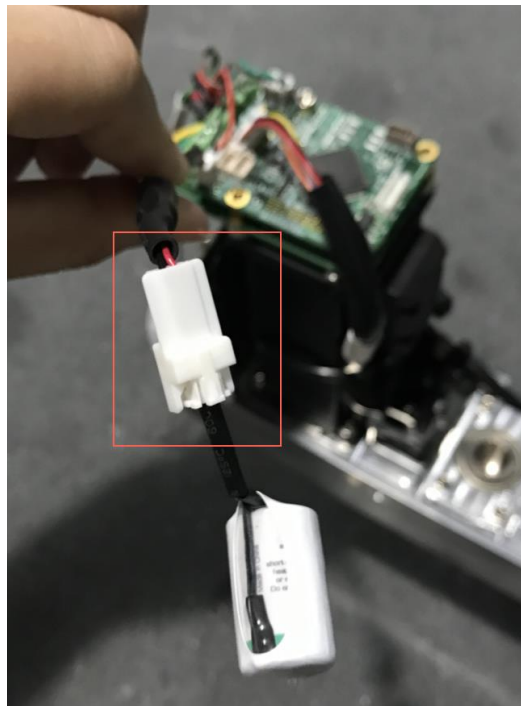

Figure 7.15 Connect the battery to the batter adapter
- Step 6** Connect the connector of the standby battery to the other end of the battery adapter cable, as shown in Figure 7.15.